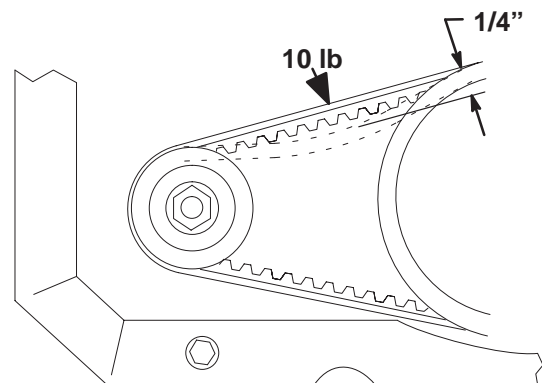

Figure 4
8. Push the top of the alternator away from the drive pulley and tighten the bolt (M8 x 45 mm) in the adjustment slot when the top span of the belt flexes 1/4 inch when you apply 10 lb (4.5 kg) to the center of the span (Fig. 4).